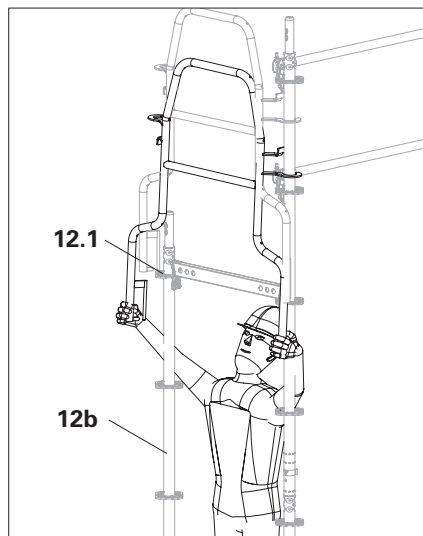

Fig. A5.14c
5. Raise the end guardrail in advance until the pegs (36.1) can be inserted into the rosettes (12.1) from above. (Fig. A5.14c)